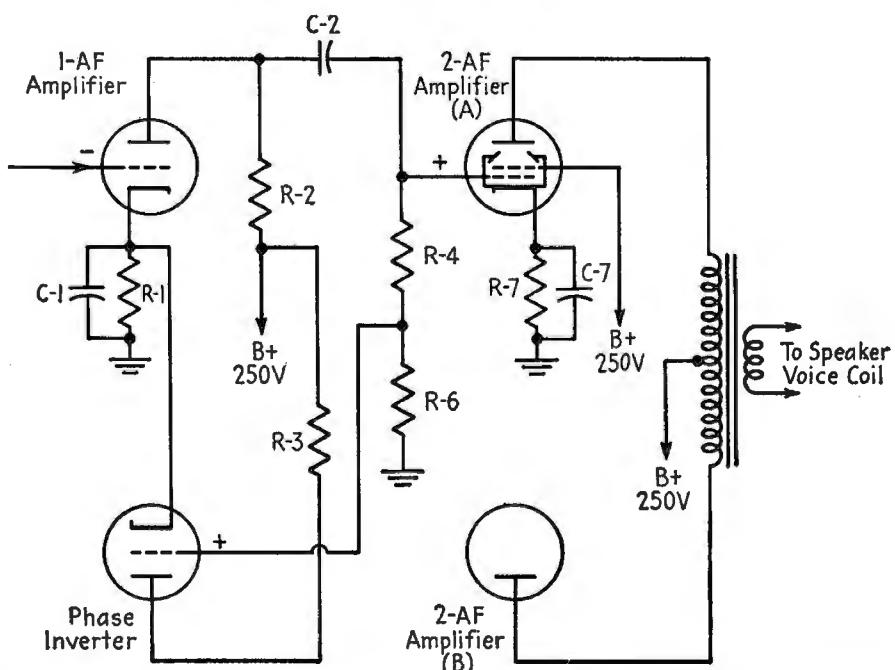

FIG. 21-11.—Applying a portion of the positive output signal of the first AF amplifier tube to the phase-inverter grid.
second AF (A) tube. Then this positive voltage is placed on the grid of a phase-inverter tube. Figure 21-11 shows the circuit described above. The self-bias circuit for the first AF tube, made up of $R-1$ and $C-1$, is common to the inverter tube.